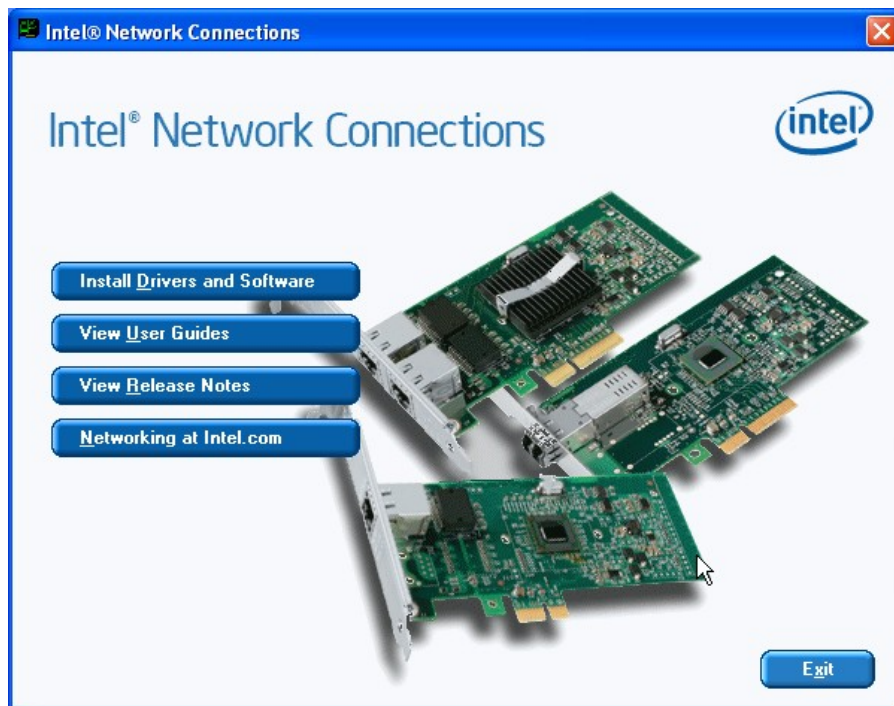

Figure 6-13: Intel® Network Connection Menu
Step 4: The Intel® Network Connection menu in **Figure 6-13** appears.